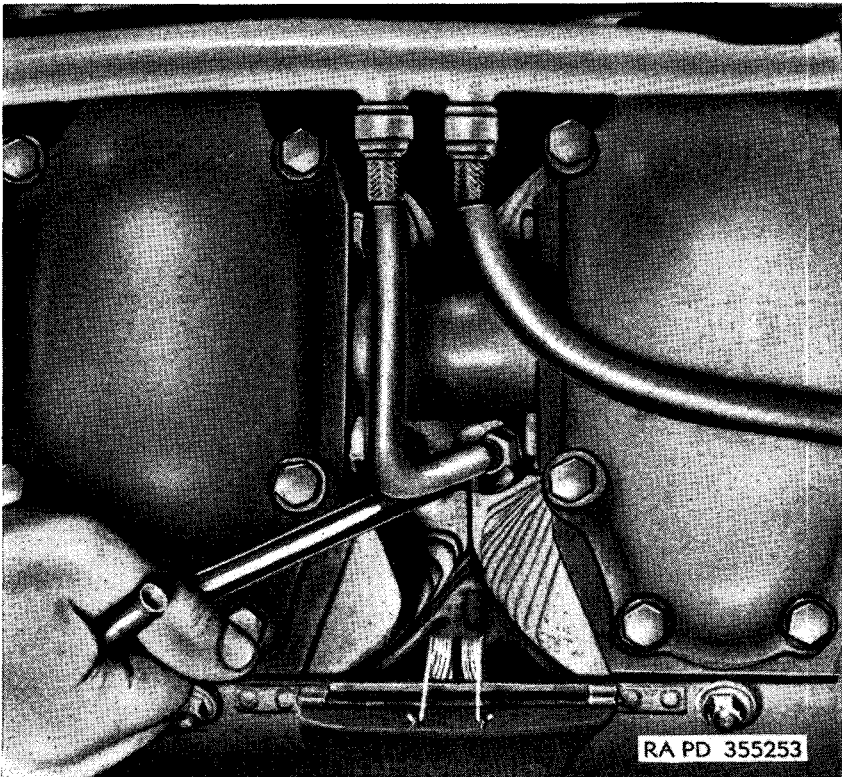
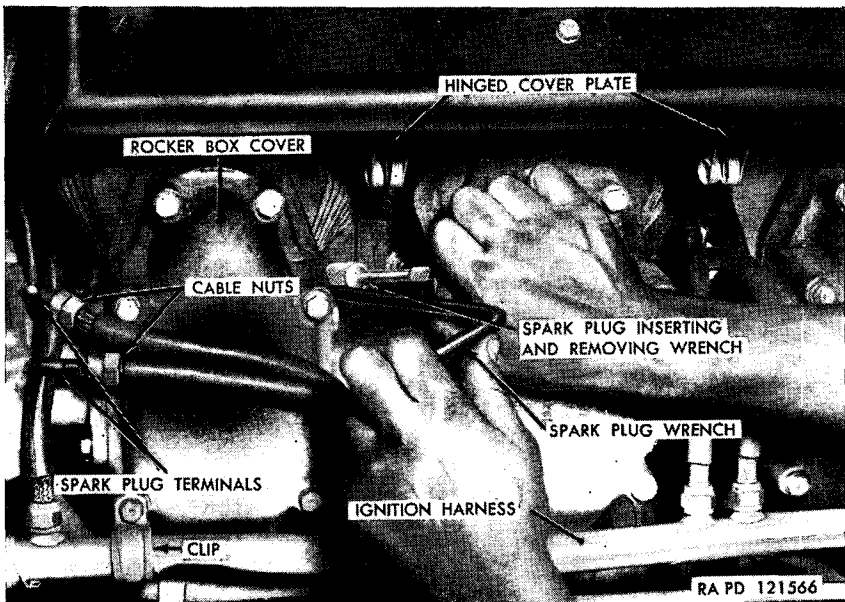

Figure 168. Removing spark plug cable nut with cable nut wrench 41-W-871-70.
Figure 170. Using spark plug inserting and removing wrench 41-W-3306-500 and spark plug wrench 41-W-3304-800 to insert and tighten plug.
a. REMOVAL. Turn off master relay switch (fig. 18). Remove intermediate section of top deck (par. 158c). All spark plugs can now be removed except the two front and the two rear ones. To remove the two front plugs, remove the front section of the top deck (par. 158c). To remove the two rear spark plugs, remove the two spark plug access opening covers in engine rear shroud (fig. 221). Pull up hinged cover plates (fig. 170) over each spark plug. Detach spark plug cable from spark plug by loosening cable nut at spark plug with cable nut wrench 41-W-871-70 (fig. 168) and pulling cable free.
Note. Insert spark plug inserting and removing wrench 41-W-3306-500 (fig. 170) on top of plug to aid lifting plug out of recess.
c. **INSTALLATION.** Install new gasket on spark plug. Screw spark plug inserting and removing wrench 41-W-3306-500 on top of spark plug (fig. 170) and insert plug into cylinder head. Tighten plug, using a deep socket wrench to 200 to 225 lb-in torque. Install spark plug cable, using cable nut wrench 41-W-871-70 (fig. 168). Close hinged cover plates (fig. 170) over each spark plug. Install spark plug access opening covers (fig. 221). Install front and intermediate sections of top deck (par. 161*b*).